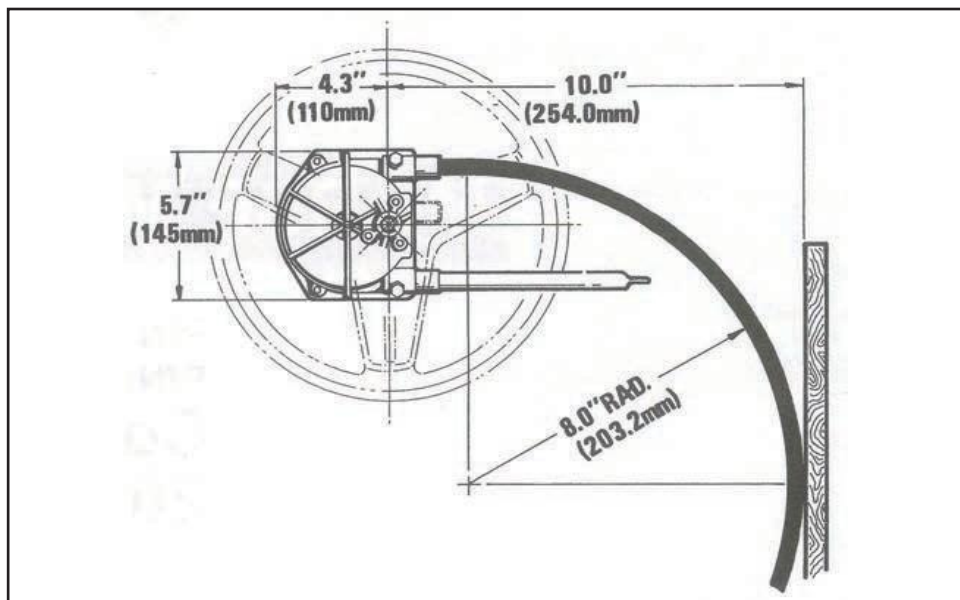

Figure 1
STEP 2. Refer to Figures 1, 2, and 3 for mounting dimensions.